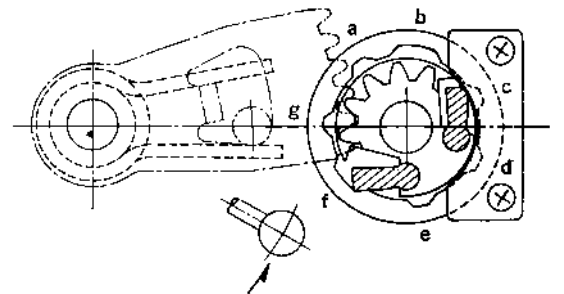

Fig. 64 Shift pedal lifted up
- C-3. Operation of shift pedal lifted-up. (Fig. 64)